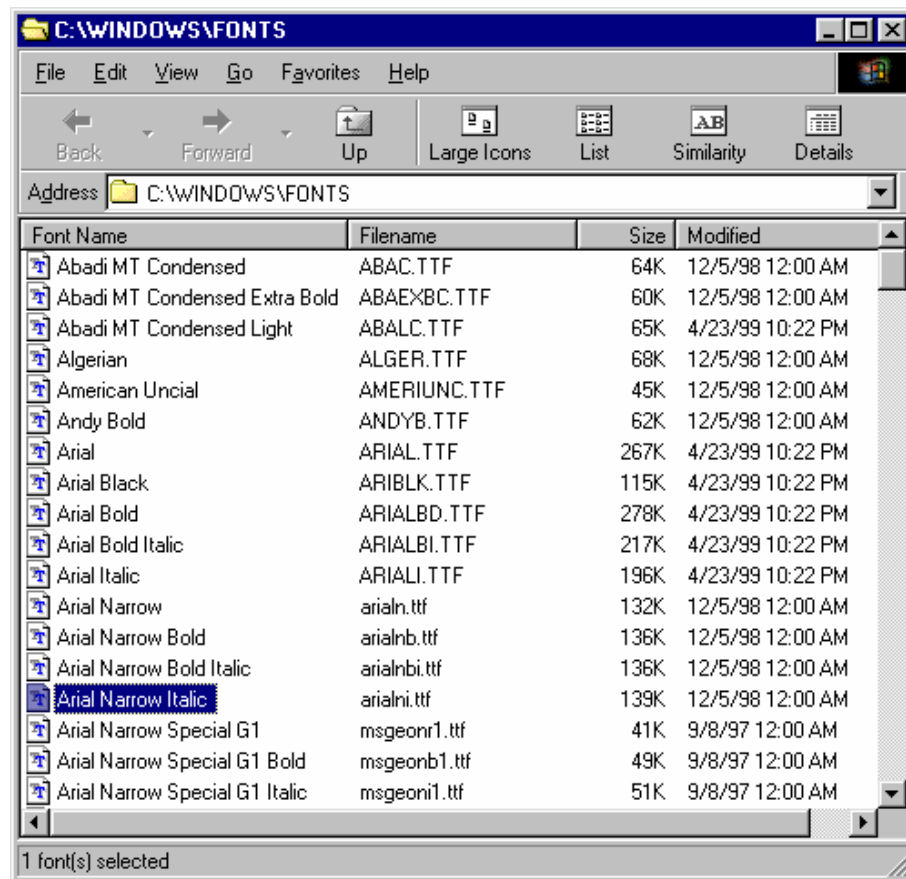

Figure 1.10. Fonts Window
13. The **Fonts** window, shown in **Figure 1.10**, is open during the process of installation, but it will not stop the installation. The installation opens this window to configure Marquee Agent dotted fonts. You can ignore this window and close it at any time.